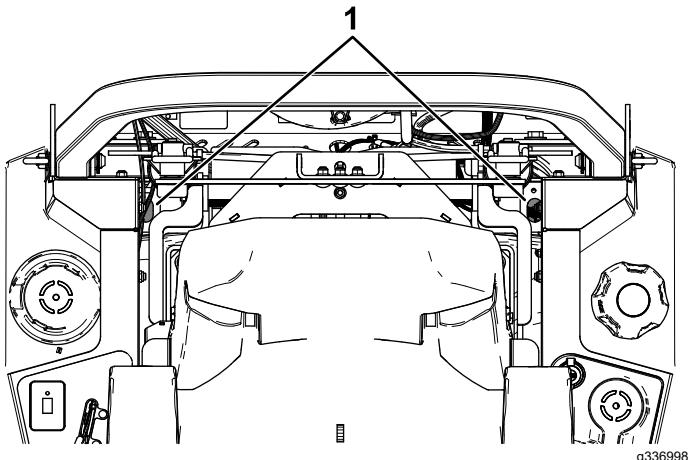

Figure 76
- **For ZT 4400 Hydros,** use an extension and 7/16-inch socket, access the vent plug from the top of the machine through the holes near the roll-bar mounts (Figure 76).